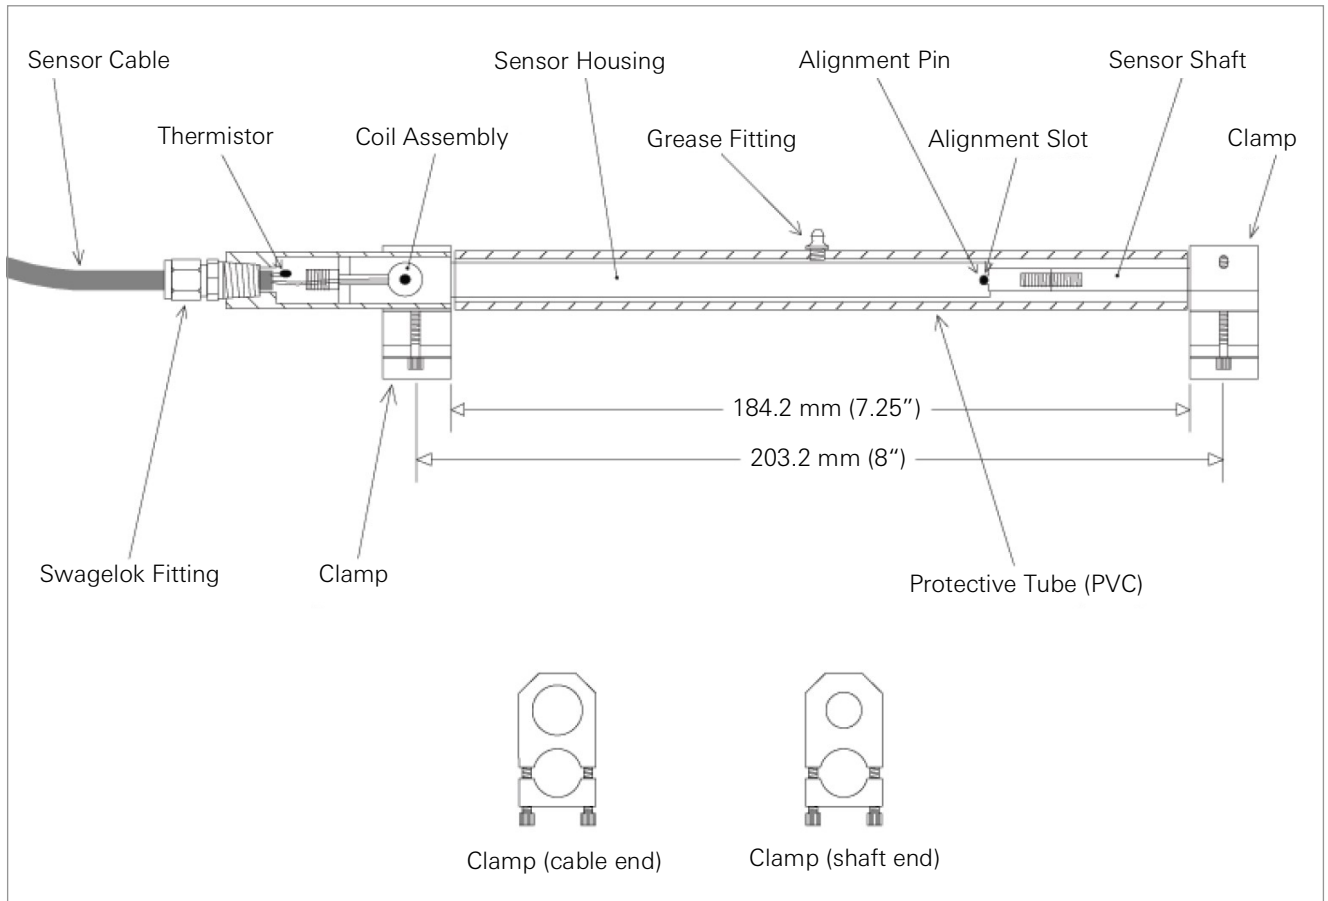

FIGURE 1: Model 4410 Vibrating Wire Strandmeter
10. For strands that are to be embedded in concrete, fill the PVC tube with grease. A 1/4-28 threaded hole (Figure 1) is provided which will accept a standard grease fitting. Screw the fitting into the hole, fill with grease, and then remove the fitting.